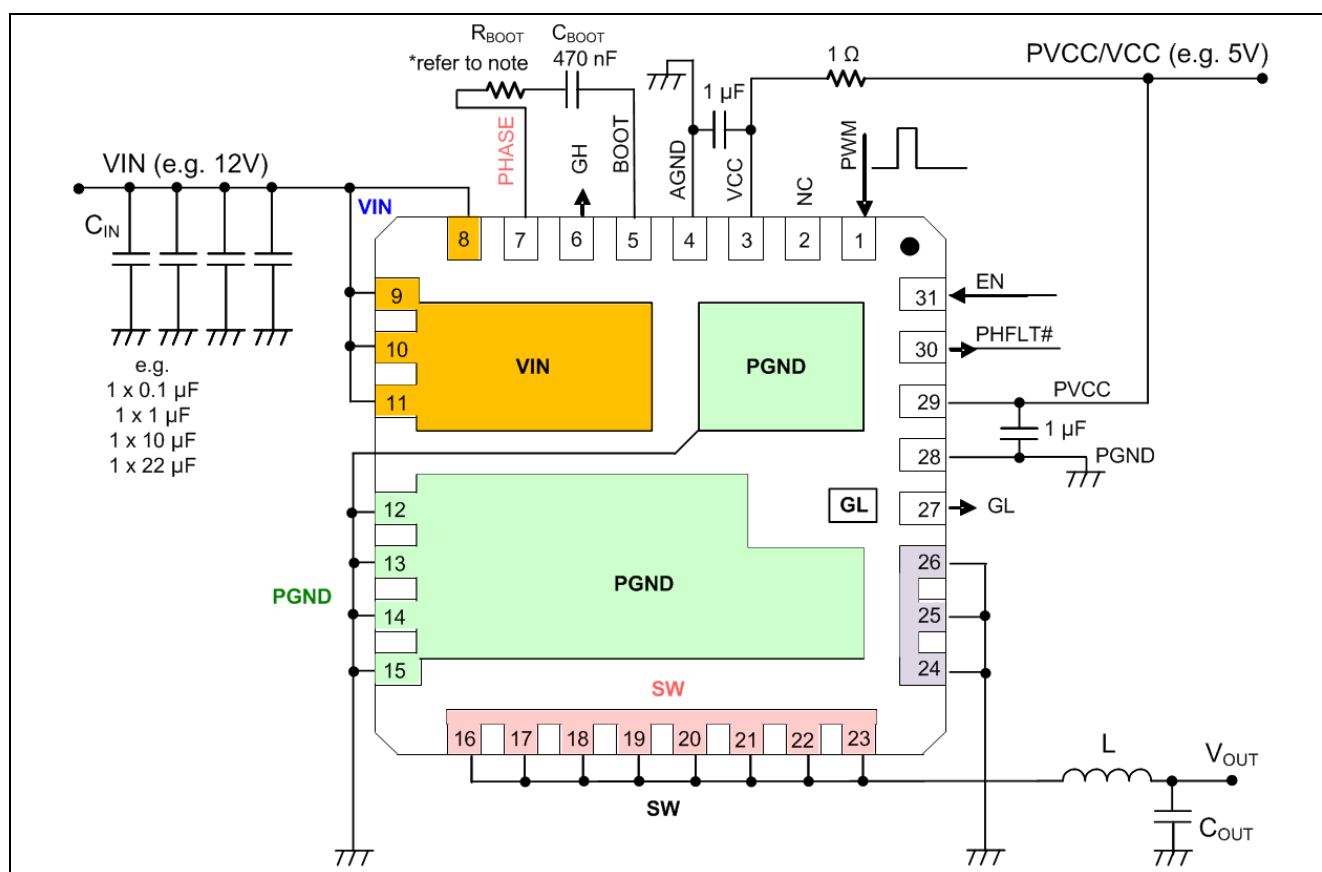

Figure 6 Pin Interconnection Outline (example, transparent top view)
³ In telecom applications the recommended maximum voltage for V_{IN} is 13.2V unless a boot resistor is used (see Figure 6) to limit the voltage spike $V_{PHASE}-V_{PGND}$ (AC) to 26V.